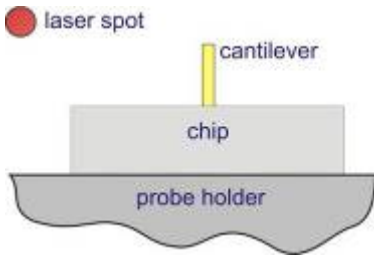

Fig. 2-86
- a. "Undistorted" image on paper. (Fig. 2-86) This means that the laser beam is off the cantilever or the cantilever chip;